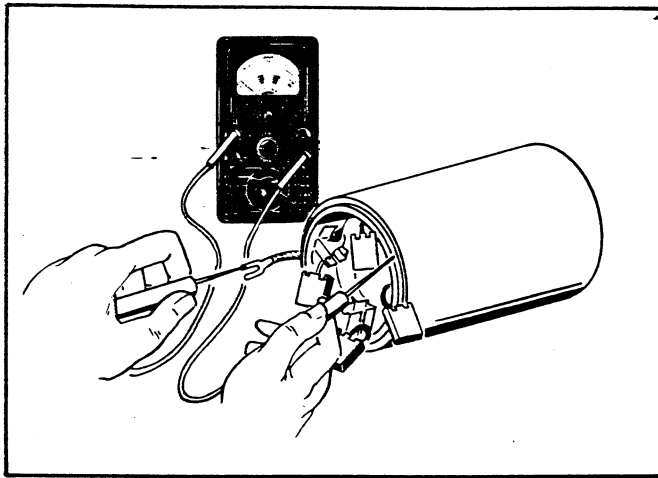

FIGURE 42. FIELD COIL GROUND TEST
6. **Testing Field Coils For Grounds.** Referring to Figure 42, place one lead on the connector and the other on a clean spot on the frame after unsoldering shunt field coil wire. If the ohmmeter reading is low, the fields are grounded, either at the connector or in the windings.